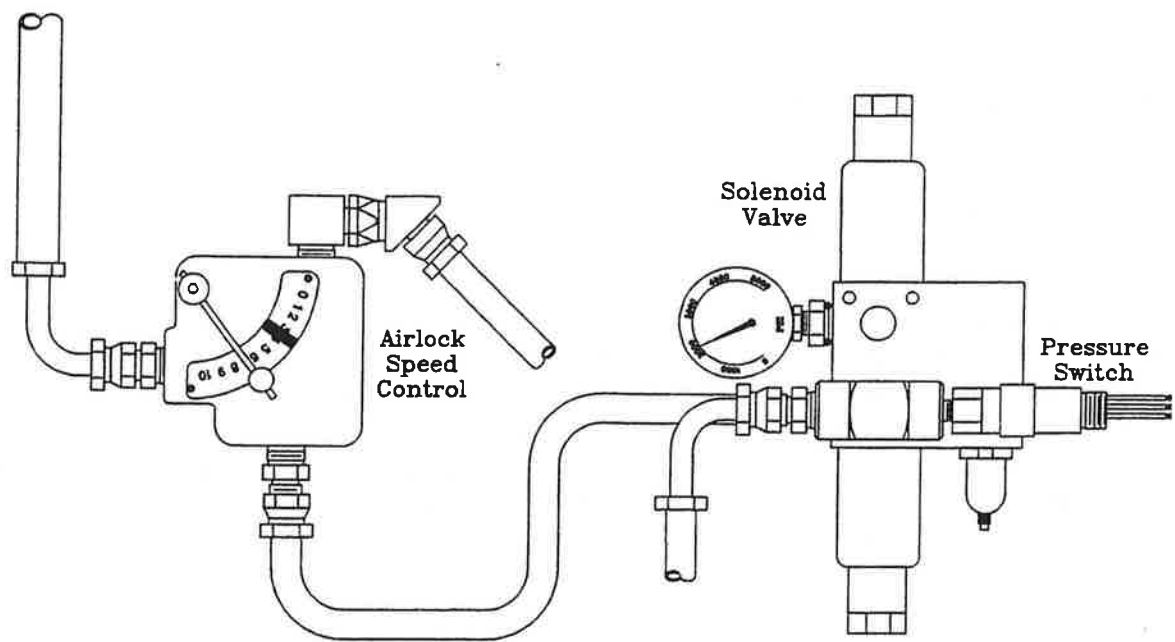
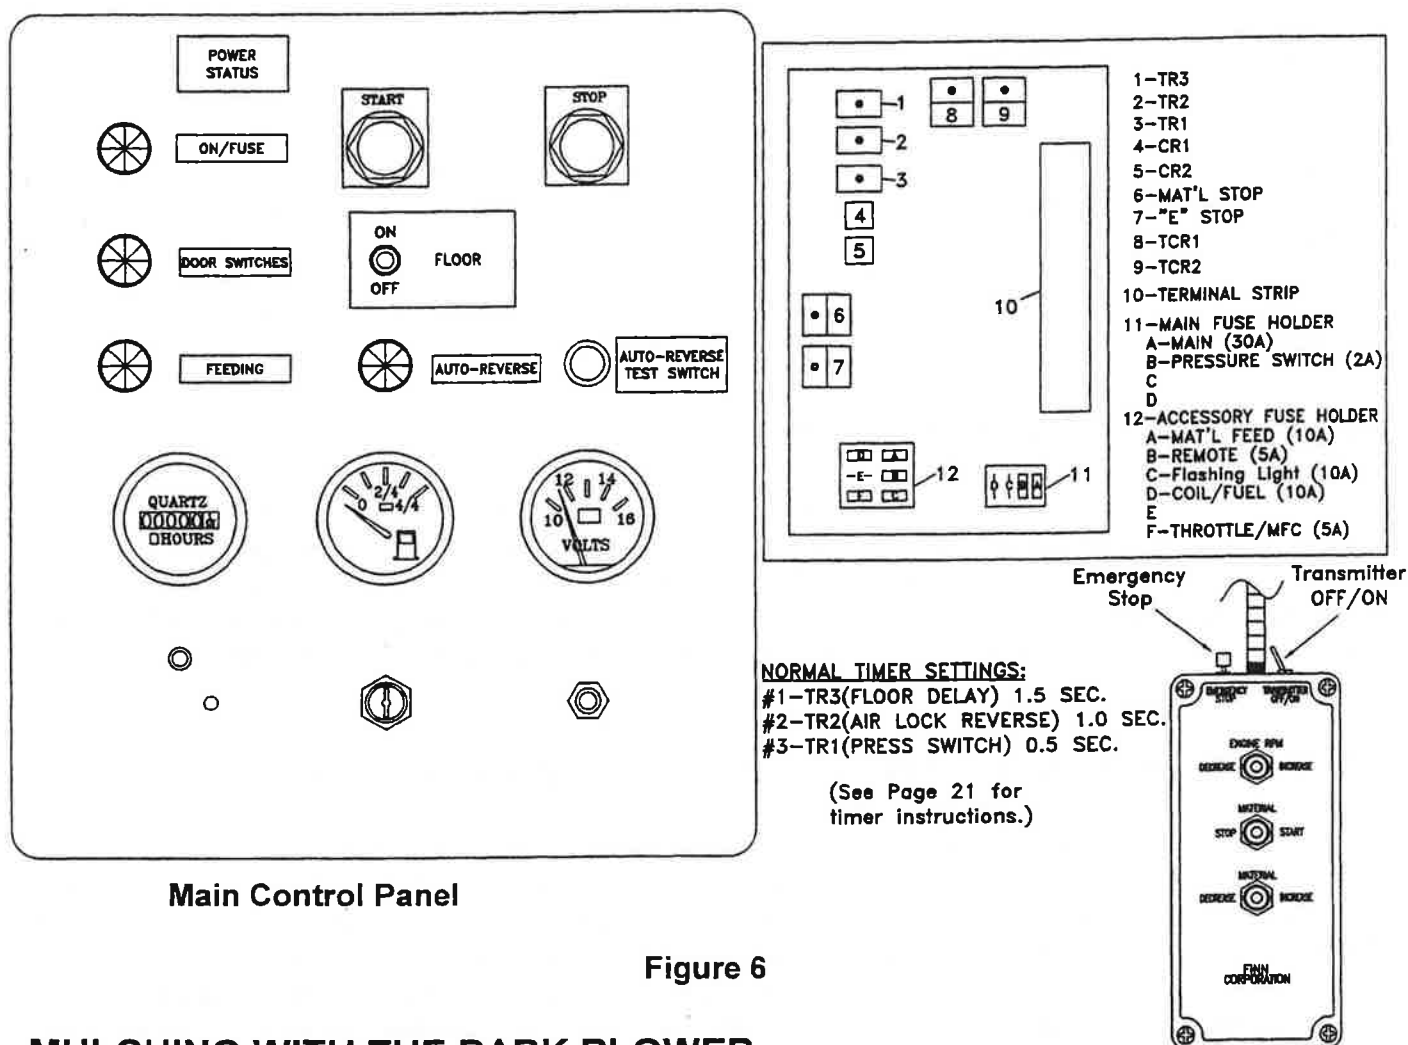

Figure 3
Figure 6
4. Check that the "ON/FUSE" and "DOOR SWITCH" lights are illuminated. If not, check the 10 AMP fuse in the control box (see Figure 6 pg. 19) and verify that the doors are closed at the air lock.
Oil flowing through the valve in the "forward" direction is directed to an adjustable flow control valve, which splits the oil flow between the rotary air valve motor and a bypass line back to the oil reservoir. Adjustment is made via a lever control with a set screw knob that rotates on a 45° quadrant. Proper flow control setting is between 5 and 10, which will produce an air valve speed range of approximately 24 to 36 RPM. (See figure 3 for valve orientation).
When the "Start" button is pushed the CR1 and CR2 relays in figure 6 (pg. 19) are energized. This in turn energizes the "forward" solenoid on the solenoid valve, starting the air lock and the drag conveyor, assuming the conveyor toggle switch is "On". As material drops into the top of the rotary air valve, the pressure required to cut the material is monitored by a pressure switch located on the bottom work port of the solenoid control valve (see figure 3 pg. 15). The switch is normally open. It closes when the rotary air valve motor stalls, causing high pressure due to the air valve encountering an object it can not cut. The amount of time the pressure switch is closed is monitored by the relay TR1 in figure 6 (pg. 19). If the switch remains closed for more than 0.5 seconds, TR1 energizes timer relay TR2. TR2 automatically reverses the rotary air valve by energizing the "Reverse" solenoid and de-energizing the "Forward" solenoid, and de-energizes the dump valves, shutting off the drag conveyor and the feed roll. The unit will remain in "Reverse" until TR2 times out, which is approximately 1 second. Timer relay TR3 delays the restart of the drag conveyor and feed roll allowing the rotary air valve to clear itself. The setting for TR3 should be approximately 1.5 seconds.
Bark Blower Power Status Lights: (See Figure 6)
When the rotary air valve pressure switch closes due to high pressure, a series of relays is triggered in the electrical control system that automatically reverses the rotary air valve and stops the drag conveyor. The length of time the system remains in reverse is determined by the setting on the timer relay TR2 (see figure 6 pg. 19). This relay is located inside and near the top of the electrical control box labeled "MATERIAL FEED CONTROL". The relay has a digital dial graduated 0-6 seconds, indicating the approximate length of time the reverse cycle will last. Optimum setting is 1 second. A third timer relay, TR3, delays the restart of the drag conveyor to allow the rotary air valve to clear itself of material before restarting of material flow. TR3 is located above TR2 and its optimum setting is 1.5 seconds.